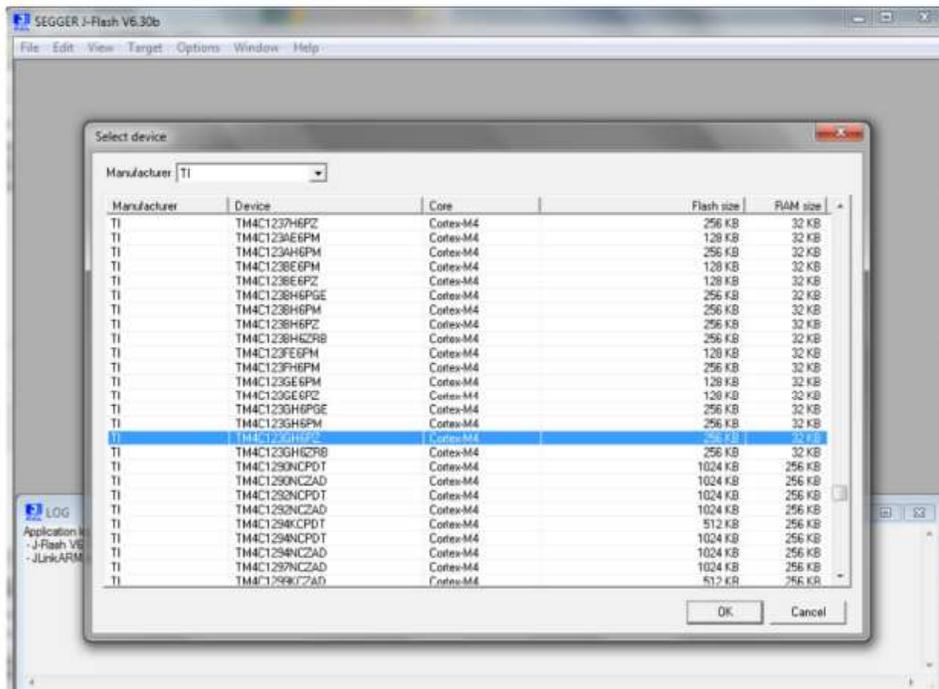

Figure 20: Select device [Project\_device]
- The "Select Device" browse window appears. First select Manufacturer "TI", then select Device "TM4C123GH6PZ" and click "OK" (Figure 20, STMA-69149);